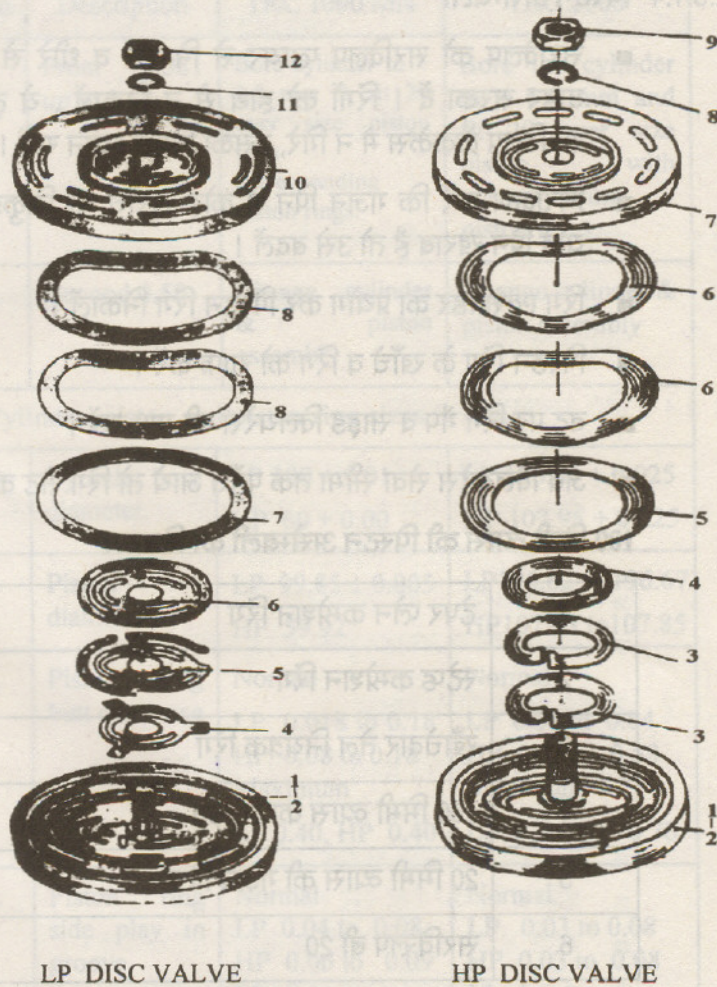

Figure 2.1
- Position of the springs should be carefully noted since it will help during re-assembling . *Refer figure 2.1*